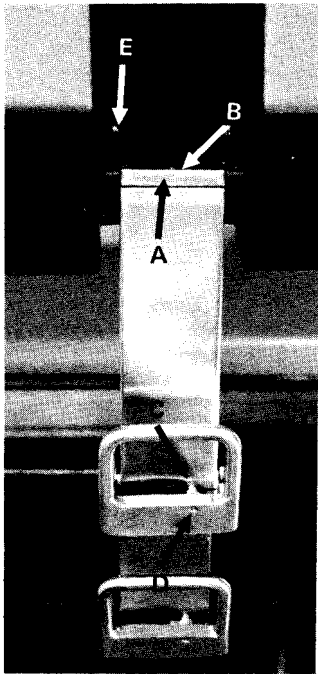

Fig. 6
For proper action the handle stop must be adjusted so that when the handle is pushed down for locking action, the handle reaches a point where it wants to lock itself by suddenly going over center. The proper position of the stop is just a fraction over center. The stop is adjusted by loosening the lock nut Item C, Fig. 6 and turning the set screw stop Item D, Fig. 6 with a  $1/8$ " allen wrench. After adjustment, lock the stop screw with the lock nut.
- 1) Remove the (4) screws which mount the headrest to the brackets of the headlock. (Item E, Fig. 6.)